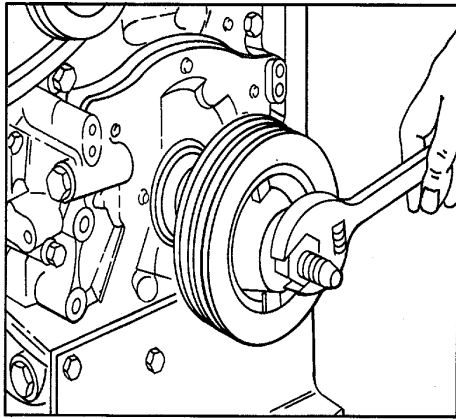

Figure 2. Installing Crankshaft Pulley Using Installer J 7773
4. Install a rigid-type pulley on an in-line or 6V engine with installer J 7773 as shown in Fig. 2. Then remove the installer.